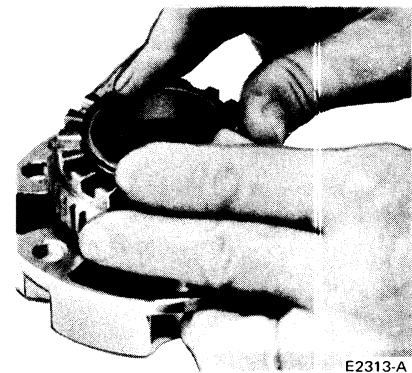

FIG. 21 Pressure Spring and Outer Clutch Gear Installation
12. Install the pressure spring and outer clutch gear. Compress the pressure spring by forcing down on clutch gear and assemble snap ring (Fig. 21). Make sure snap ring is secure in the groove of the cam.